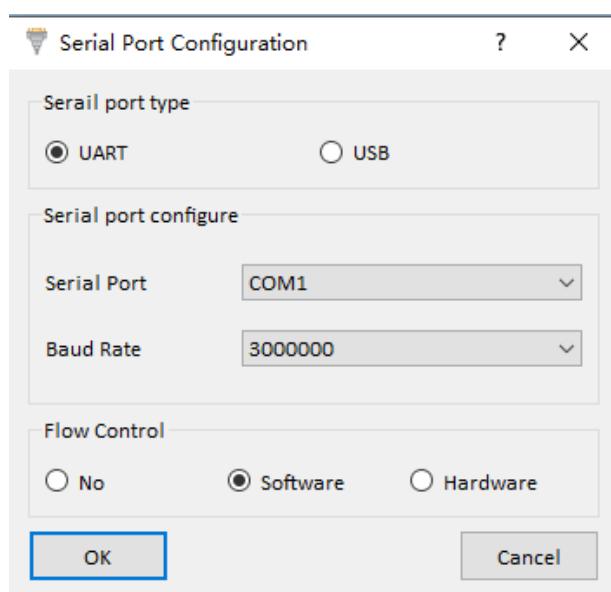

Figure 25. Serial Port Configuration window
- 4) Set the **Serial port** and **Baud Rate** is shown in Figure 25.